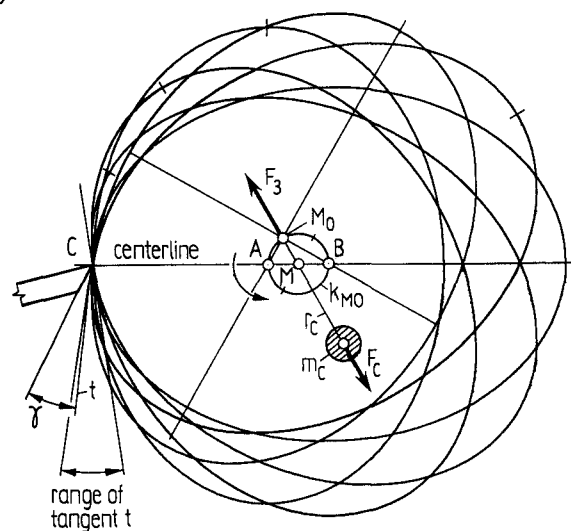

Figure 5. Oval lathe mechanism.
How does the work-piece move on the oval lathe? The work-piece is attached to the slider (3) in the centerpiece (2) (Figure 4), and for half a revolution of the center plate or of the driven spindle, respectively, the elliptical work on the slider (3) runs through it's positions (Figure 5). During this half revolution, the tool edge's cutting point C cuts half the ellipse, but the center point M_c of the ellipse runs along the entire circle k_{mo} around center M (Figure 5). The circle diameter is AB. Since the center point M_c is the common gravity center of the slider (3) and the work-piece (Figure 4), the centrifugal force F_c of their weight is directed from M to M_c . It is constant, but rotates around M with twice the revolutions per minute (rpm) of the center plate. This force causes the vibration of